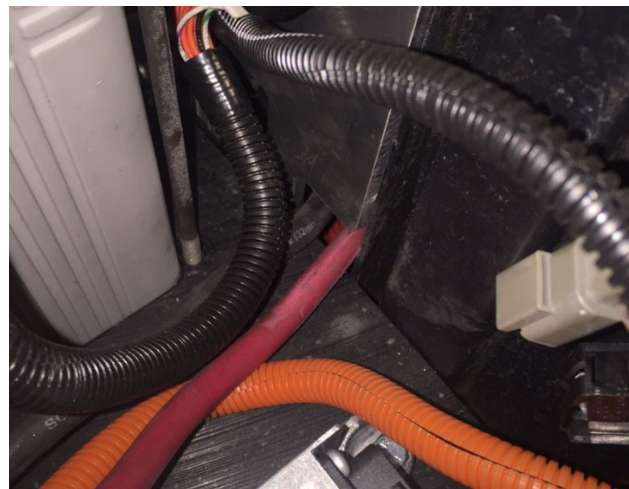

Fig. 1- Cable routing from battery pack
1. Carefully feed the power cables; both the black pack negative (B- cable) and the red pack positive cables, beneath the controller plate and into the motor/controller area at the back of the vehicle. (Fig. 1)